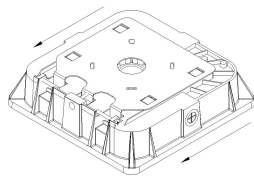

Figure 3
- Slide the mounting plate toward Screw A, and then remove it from the luminaire body (see Figures 3& 4).